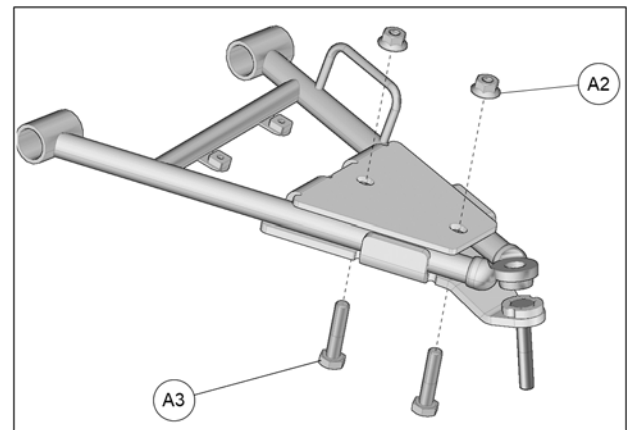

Fig. 18
6. Insert the M10x45mm bolts (A3) through the bottom and secure the two parts together with the nuts (A4) provided. Tighten assembly to 50 N•m [37 lb•ft] of torque. See Fig. 18